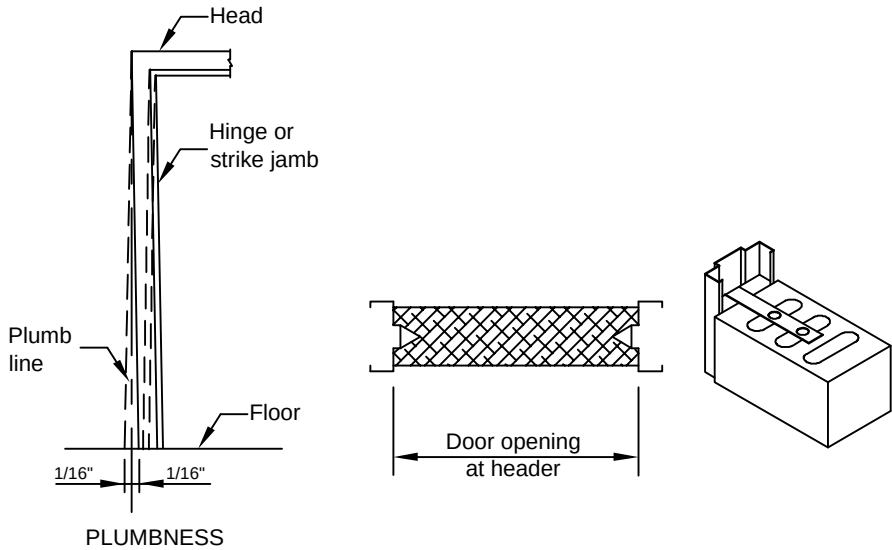

FIGURE 3
- 6. Use temporary wood spreaders cut to accurate dimension, at mid-height and sill, removing the steel spacer angle at the floor (see Figures 3 and 4). The wood spreader must be square and fabricated from lumber no less than 3/4" thick. Correct spreader length is the door opening width between the jambs at the header. Cut clearance notch for frame stops. Spreaders must be nearly as wide as the frame depth for proper installation.